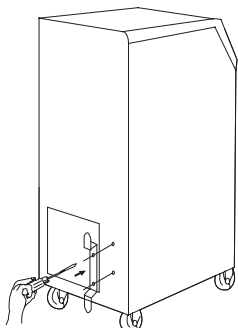

Figure 2
3. Use screws (enclosed inside of accessory box with cord holder) to install the cord holder on the air conditioner as shown in Figure 2.